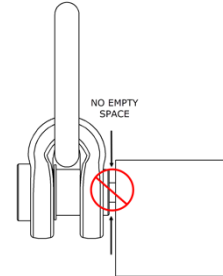

Fig 3
- Drill and tap the workpiece so that the hoist ring bolt is installed perpendicular to the surface of the workpiece. Countersink the tapped hole to prevent “swelling” of the top thread when the hoist ring bolt is torqued. The workpiece surface must be flat, providing complete contact for the hoist ring bearing surface. The tapped hole must be deep enough to ensure the hoist ring bolt is fully engaged and there is no empty space between the hoist ring bearing surface and the workpiece surface (Fig.3).